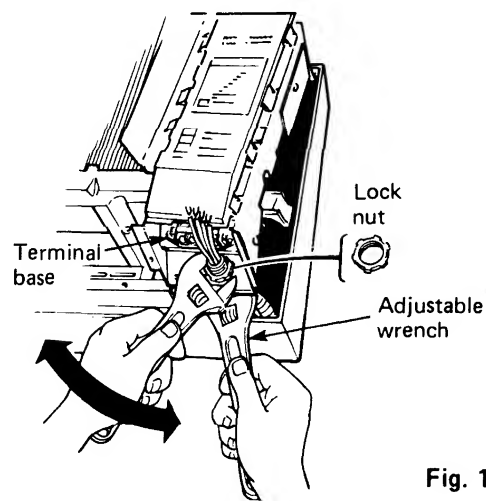

Fig. 17
e) Lift up the underside of the electrical component box slightly and secure the conduit connector to this box with a lock nut. Fig. 17